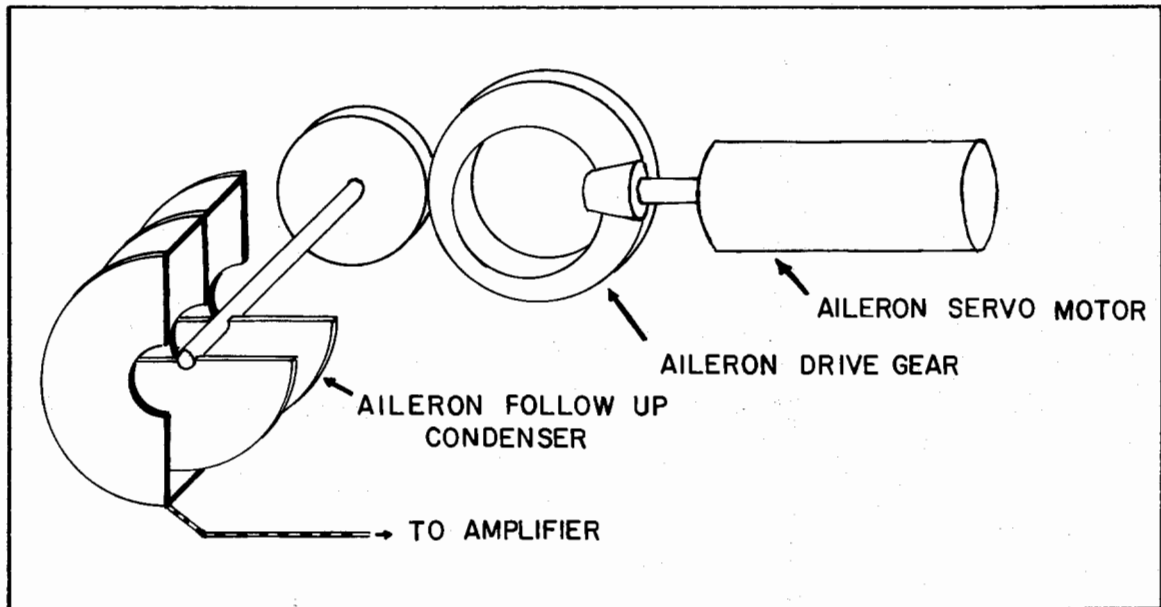

Figure 1-10.
C. FOLLOW-UP CONDENSER: The follow-up is another part of the capacitance of the roll circuit. It is a part of the aileron roll servo and the variable condenser plates move with the control wheel. (Figure 1-10)